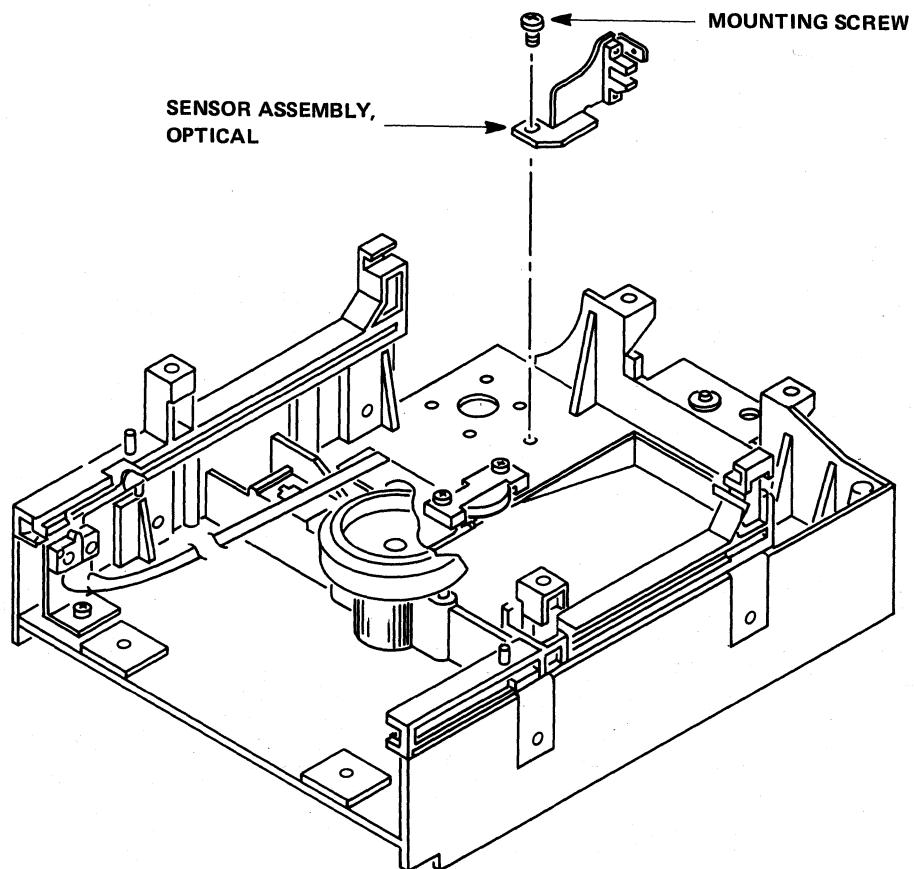

Figure 5-22
- 5.11.5 With a Phillips screwdriver, remove the mounting screw that attaches the Track 00 Sensor Assembly to the chassis (see Figure 5-22).
- 5.11.10 With a Phillips screwdriver, install and tighten the mounting screw that attaches the Track 00 Sensor Assembly to the bottom of the chassis (see Figure 5-22).